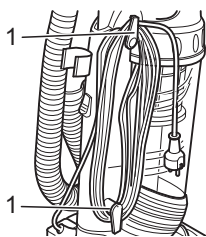

Fig.12
2. Unwind the mains cable from the cable mount (Fig. 12/1) until you have reached the desired length.